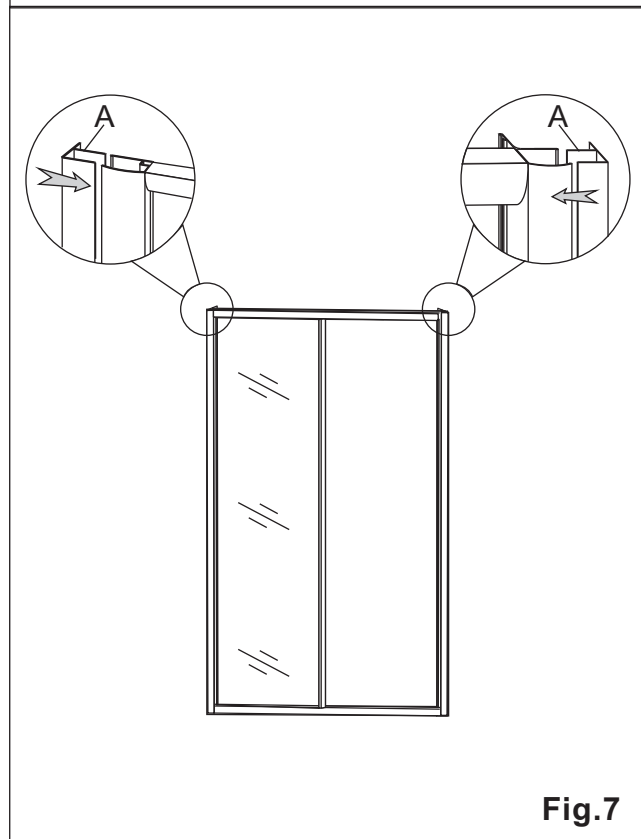

Fig.7
7. Insert the two wall profiles (A) into both side profiles, ensuring the correct orientation of the flanges as per **Fig.7**.